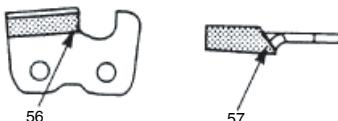

Fig. 47
- 6) File enough to remove any damage to cutting edges (side plate (56) and top plate (57)) of cutter. (Fig. 47)